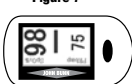

Figure 8
- Press the Power/Display Button once more; the screen will rotate 180° and display as shown in Figure 8.